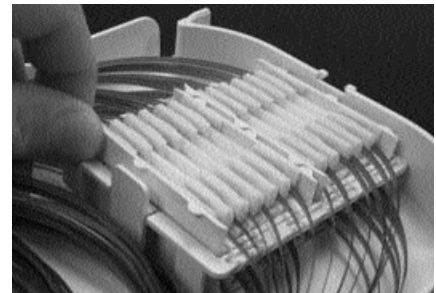

Figure 6
- For modules 3 and 4, store splices, insert modules into stack module, and rotate entire stack module assembly as described in step 5. Then place the stack module on top of the original splice module as shown in Figure 6.